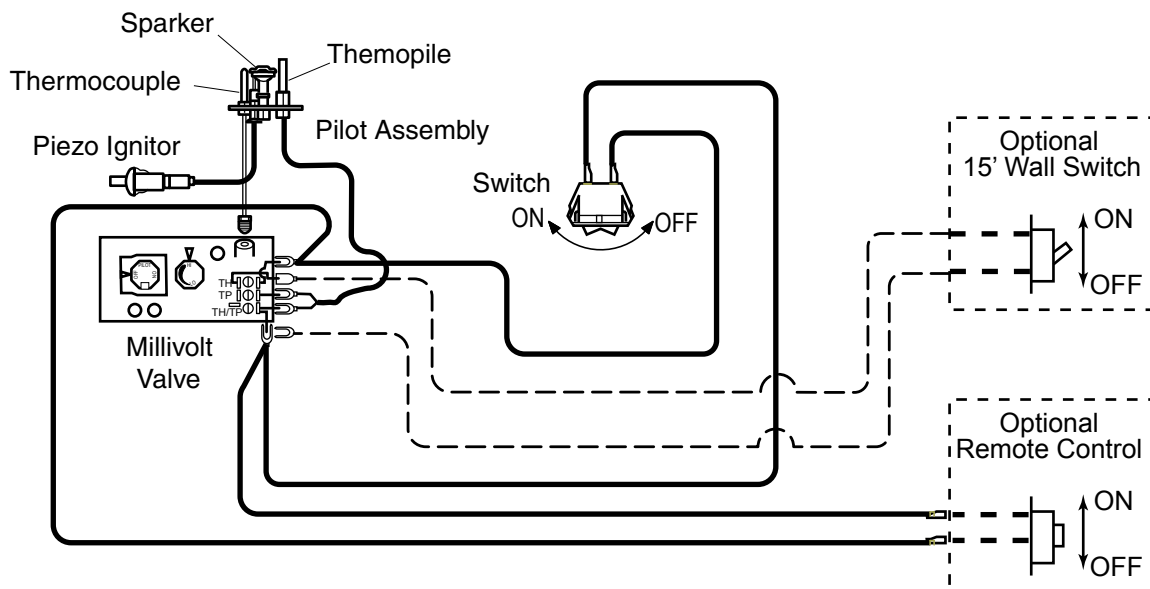

Figure 17 - Wiring Diagram for Wall Switch
A remote wall switch and up to fifteen (15) feet of 18 Ga. wire may be used with this appliance. Attach the wall switch in a junction box at the desired location on the wall. See Figure 17.